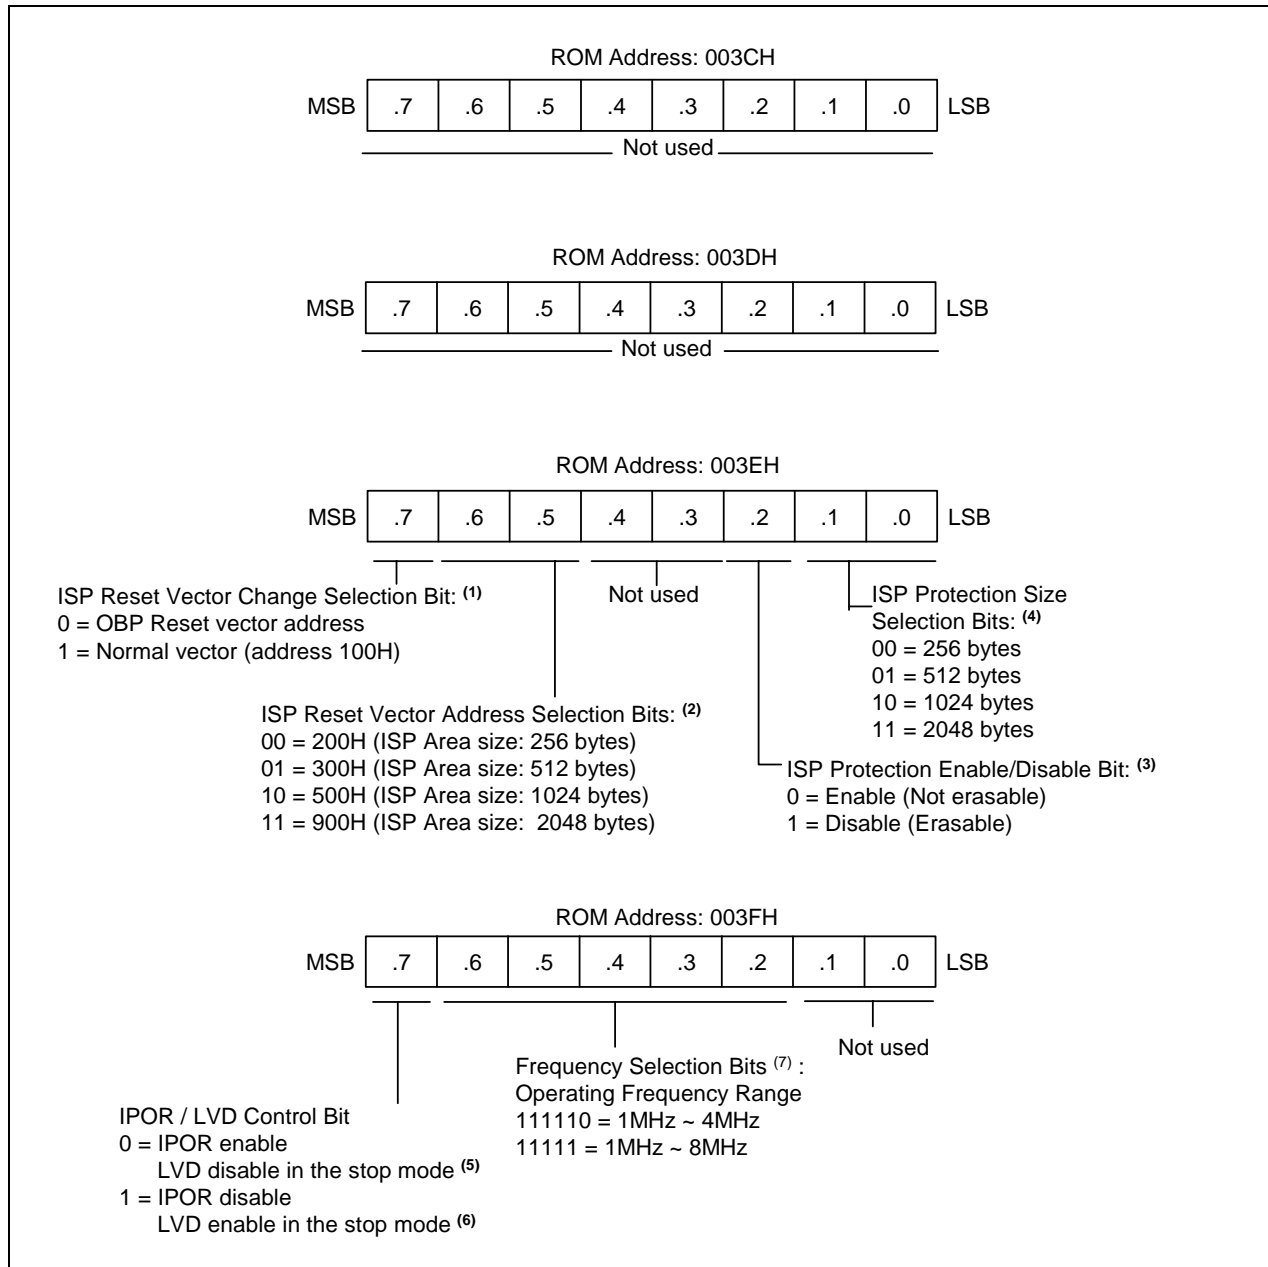

Figure 2-2. Smart Option
IPOR can be enabled or disabled by IPOR / LVD control bit in the smart option. (Refer to Figure 2-2)
The program memory address at which program execution starts after reset is 0100H(default). If you use ISPTM sectors as the ISPTM software storage, the reset vector address can be changed by setting the Smart Option. (Refer to Figure 2-2).
1. The size of ISPTM sector can be varied by Smart Option. (Refer to Figure 2-2). According to the smart option setting related to the ISP, ISP reset vector address can be changed one of addresses to be select (200H, 300H, 500H or 900H).